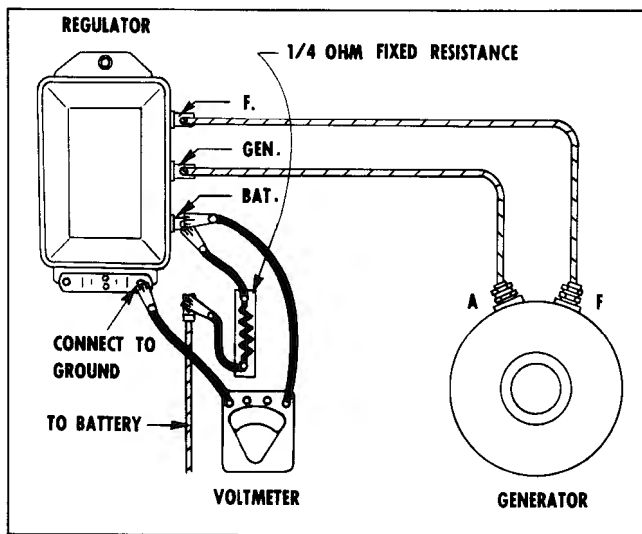

Fig. 12-9 Connections for Testing Voltage Regulator
1. Connect a 1/4-ohm fixed resistor (approximately 25 watts capacity) into the charging circuit at the "BAT" terminal of the regulator and connect a voltmeter from the "BAT" terminal to ground (Fig. 12-9).